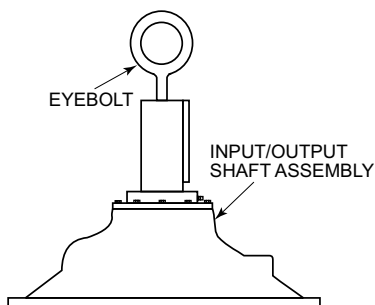

Figure 6.3.1 Proper Lifting of Input or Output Shaft Assemblies
7. Remove assembly by lifting it straight up away from the maincase. An eye bolt can be used in the threaded end of the shaft to lift the assembly; reference **Figure 6.3.1**. DO NOT LIFT ENTIRE REDUCER BY THE THREADED HOLE ON EITHER SHAFT.